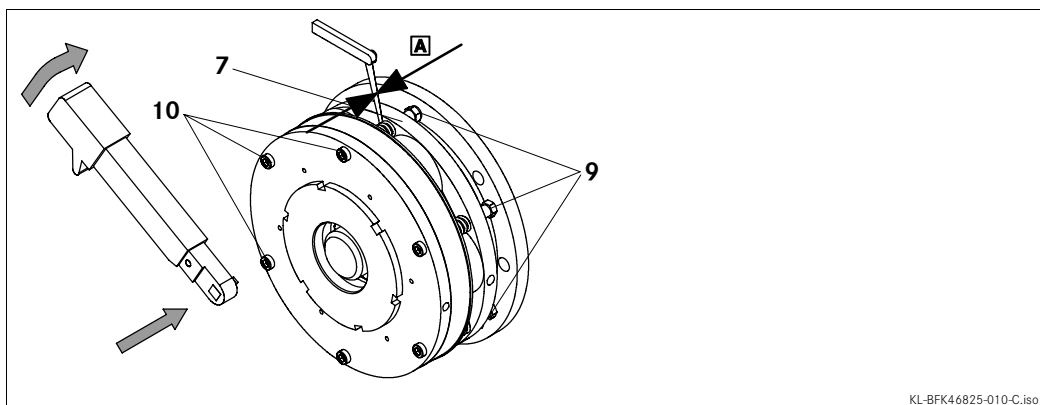

Fig. 8 Checking the air gap $s_{Lü}$
6. Tighten the screws (10) evenly (for torques see table chapter 3.3 and Fig. 8).
7. Check the air gap " $s_{Lürated}$ " near the bolts (10) by means of the thickness gauge (" $s_{Lürated}$ " see table chapter 3.3 and Fig. 8).